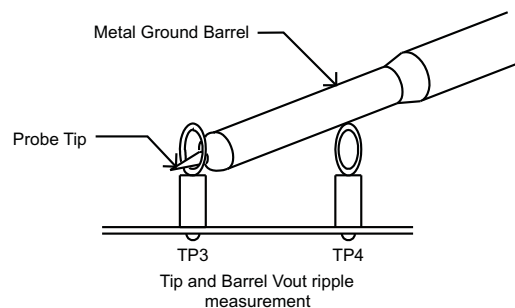

Figure 3. Output Ripple Measurement – Tip and Barrel Using TP3 and TP4
2. Connect Oscilloscope Probe with exposed metal barrel to TP3 and TP4 per Figure 3